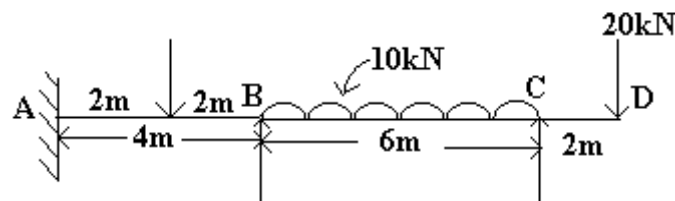

Figure 4:
8. Analyse the continuous beam loaded as shown in Figure 4 by the displacement method if the support B sinks by 10mm. Take $E = 200 \text{ GN/m}^2$ and $I = 10 \times 10^4 \text{ mm}^4$. Sketch the B.M.D. [16]